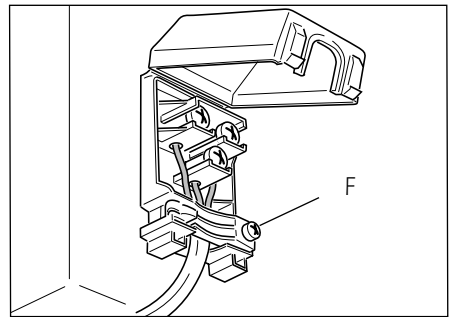

Fig. 6
- Open the cable crimp by unscrewing screw "F" (Fig. 6), unscrew the terminal screws and remove the cable.